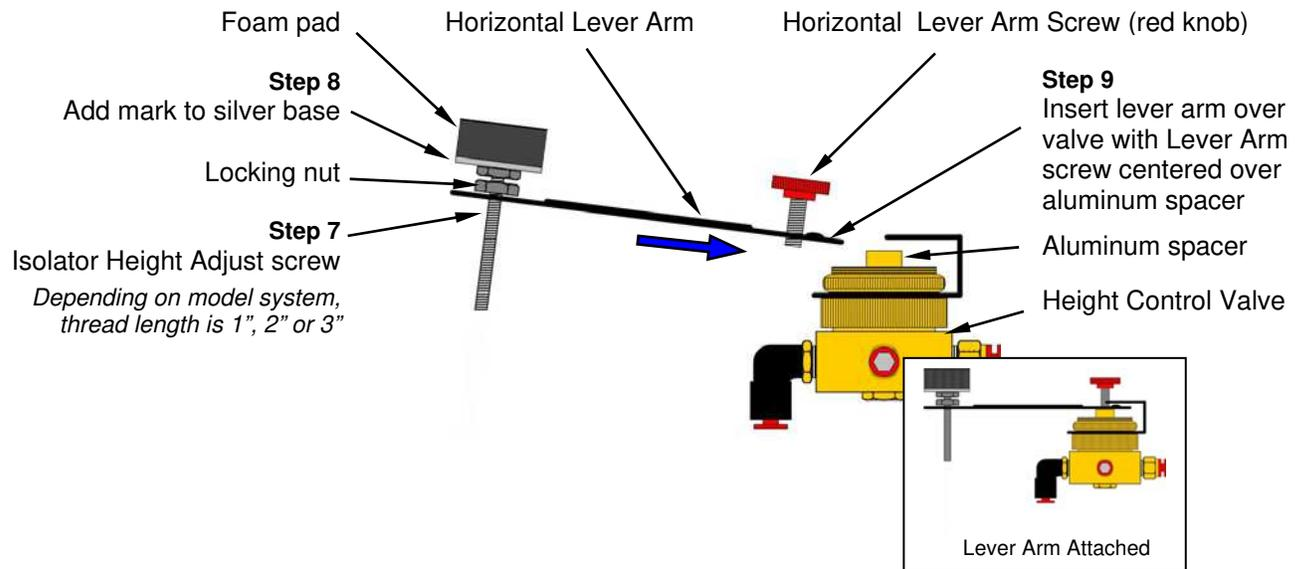

Figure 9 Attaching Horizontal Lever Arm
Step 9 Attach *horizontal lever arm* onto *height control valve* ensuring the end of the **HORIZONTAL LEVER ARM SCREW** fits over the center of the *aluminum spacer* as shown in figure 9 above.
Step 10 Loosely fasten *horizontal lever arm* with **HORIZONTAL LEVER ARM SCREW** (red knob) and adjust to position lever arm horizontal with valve as shown in figure 9 insert.